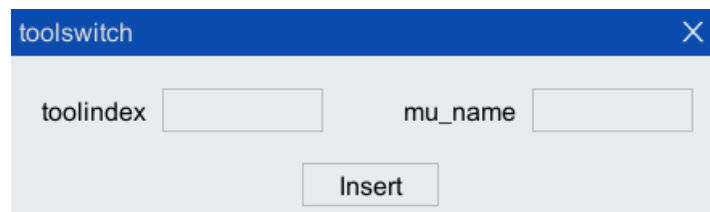

Figure 5-57 The "Toolswitch" instruction configuration interface
Step1.Click "Insert Cmd> auxiliary instruction> Tool Offset> toolswitch" option in the toolbar of the program editor to pop up "toolswitch" instruction interface, as shown in Figure 5-57.